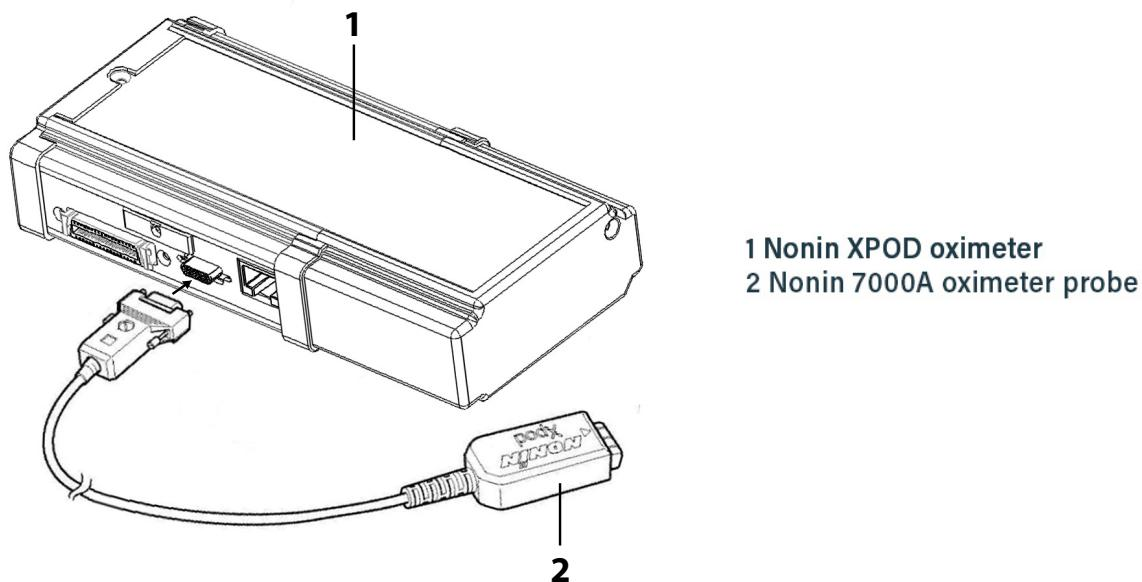

Figure 19: Connecting the oximeter to Trackit Mk3
- 1 Locate the 15 pin EXT IO connector on the Trackit Mk3. If the Click-on PCU is attached, this connector is located on the PCU. If the Click on PCU is not attached, the 15-pin connector is located on the side of the Trackit Mk3. Connect the pulse oximeter to this 15-pin EXT IO connector (see Figure 19).